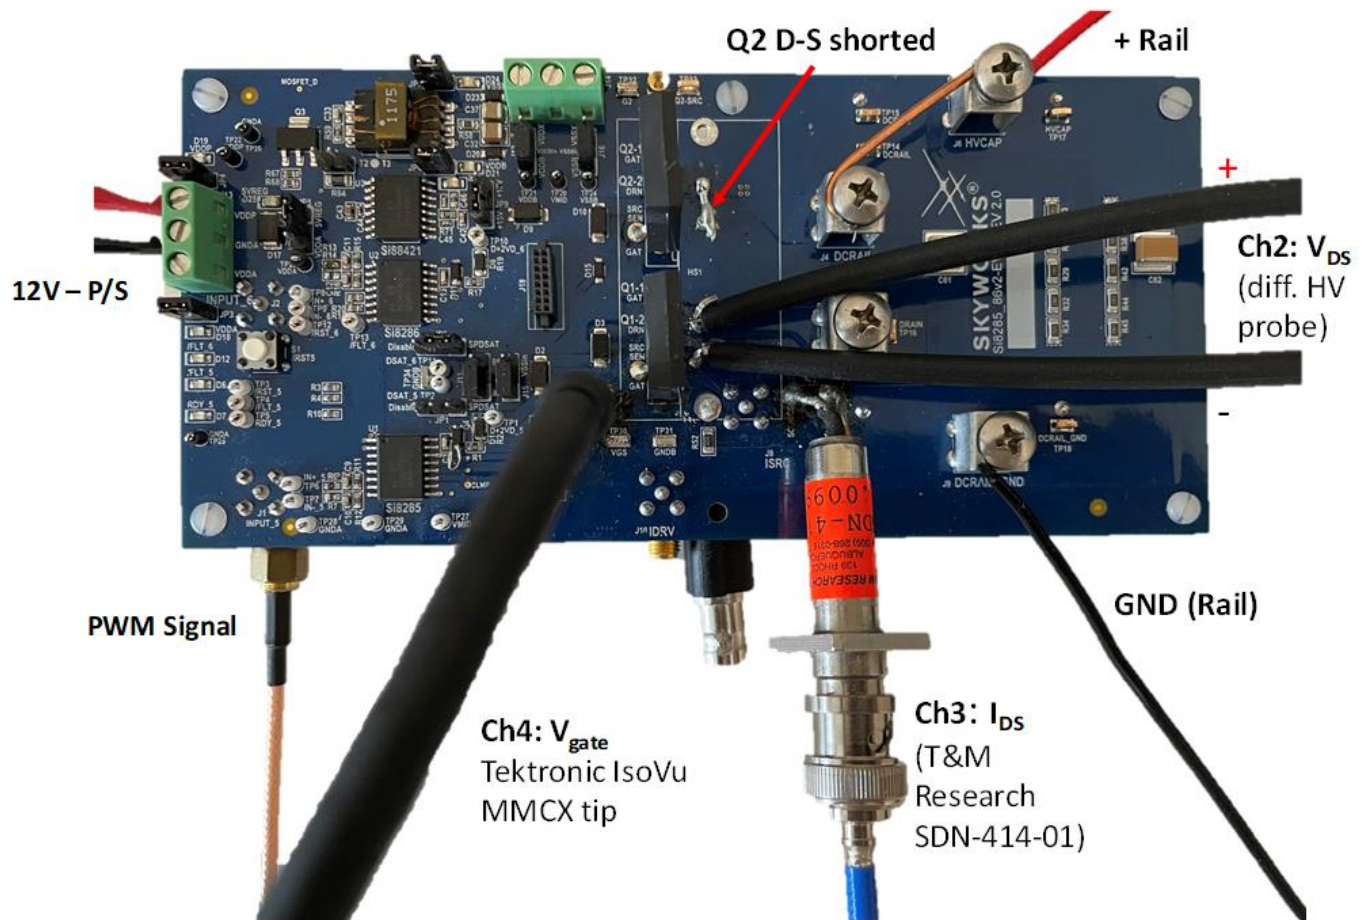

Figure 5.2. Connections for Si8285 DESAT Test Circuit
- Solder a bus wire across the Drain to Source terminals of Q2 (see Figure 5.2 Connections for Si8285 DESAT Test Circuit on page 22).